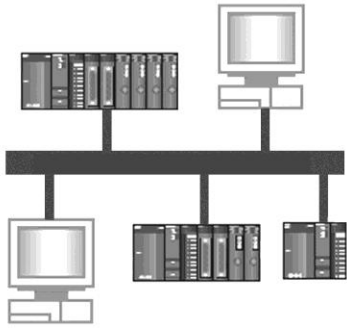

Figure 14-10 Communication link for question 43.
43. Figure 14-10 illustrates an example of a local area _____ communication link. 43. _____